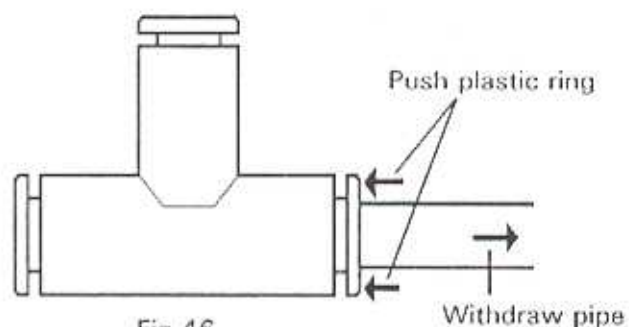
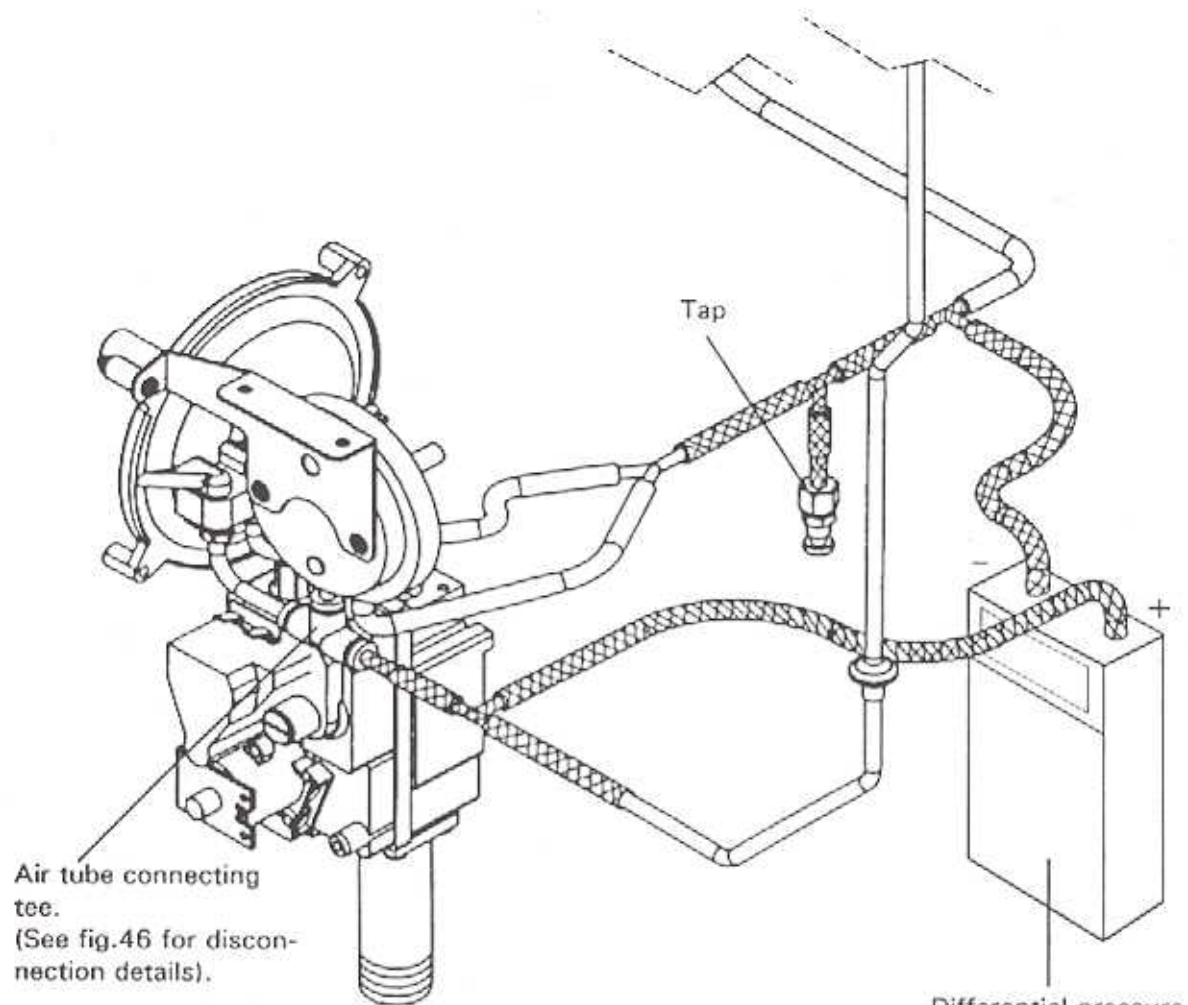

Fig.46
Fig.47
- 8.24.6 Connect a differential pressure gauge to the appliance as shown in fig.47. Ensure the tap in the pipe is closed.
N.B. When disconnecting the pipe from the air tube connecting tee (fig.47) see fig.46 for disconnection details.